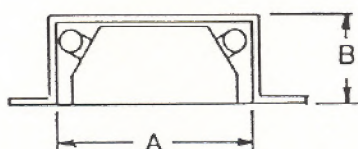

Figure 2
- In an exterior chase or projecting into a garage. (See Figure 2 for minimum space.)
Figures 2 and 3 show installations assuming outside air ducts with allowance for making 90° bends. Less space is required when ducting goes directly outside without forming elbows.